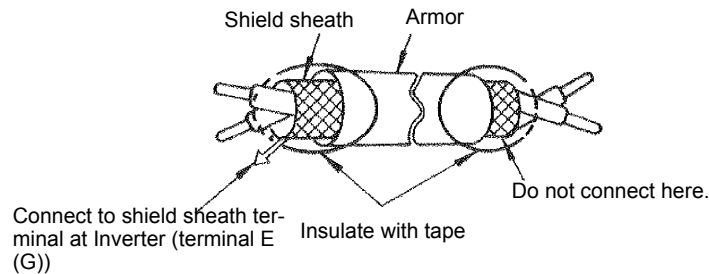

Fig 2.16 Processing the Ends of Twisted-pair Cables
- Use twisted-pair or shielded twisted-pair cables for control circuits to prevent operating faults. Process cable ends as shown in *Fig 2.16*. Wiring length must be 30 mm or less.
- Connect the shield wire to terminal E (G).